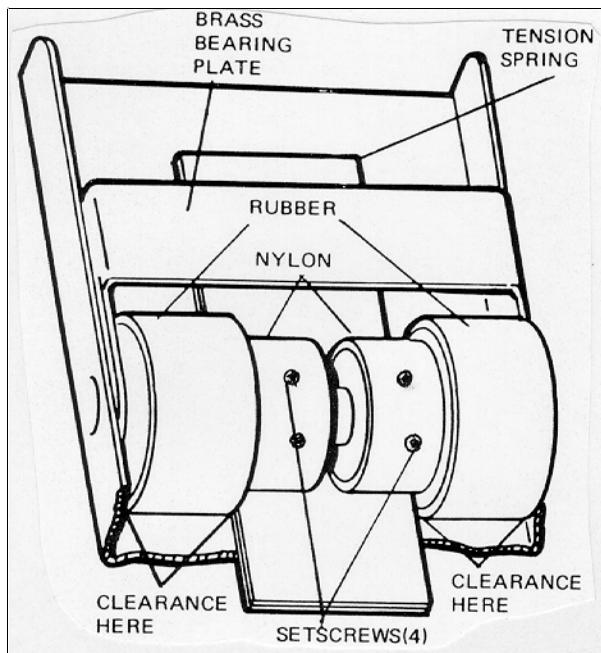

Figure 5-7. Correct Position of Drive Rollers
- 1) Lightly lubricate the roller tension spring on the arm grip mounting frame with Dow-Corning D-55 Lubricant (figure 5-7).
- 2) Lift the brass bearing plate and insert the rollers. Lower the bearing plate and rollers, making sure that only the nylon portion of the rollers contact the tension spring. Rotate the rollers so the setscrews are facing up (figure 5-7).
- 4) Adjust the rollers so that only the nylon portion touches the tension spring and the rubber drive rollers do not drag on the brass bearing plate (figure 5-7). Tighten the setscrews.